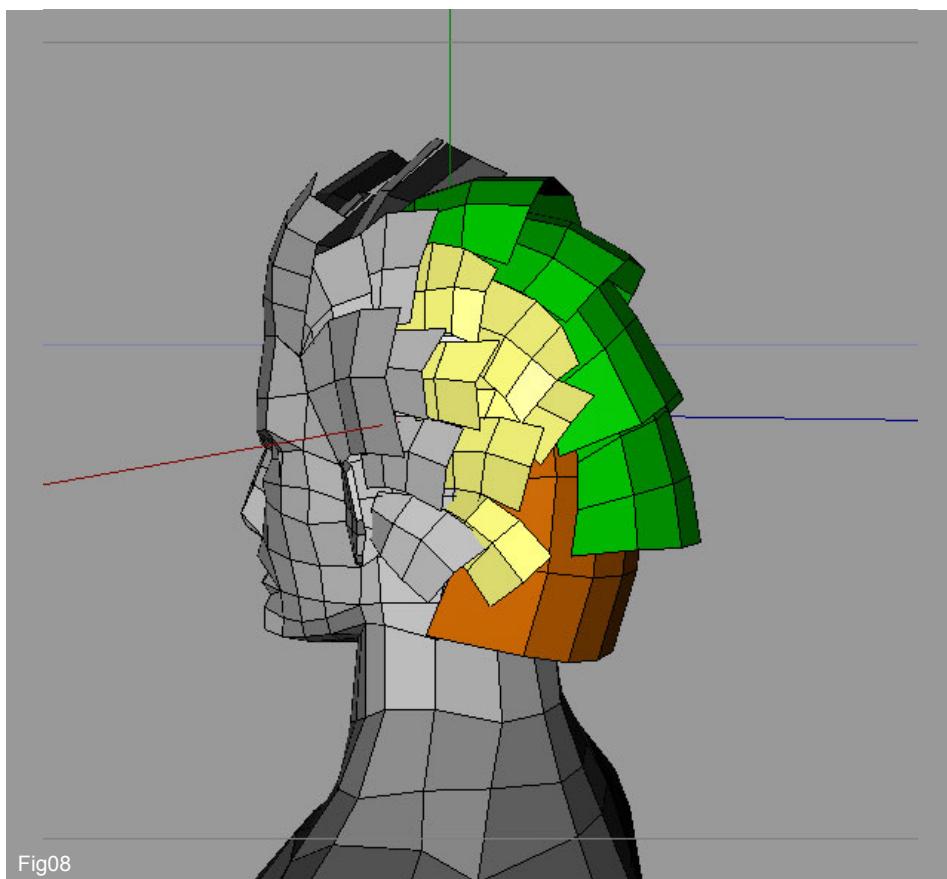

Fig08
8. The front, back and central section of the hair is now complete and all that remains to do is add in a group of planes that will form the sides as shown in Fig08 by the yellow polygons.